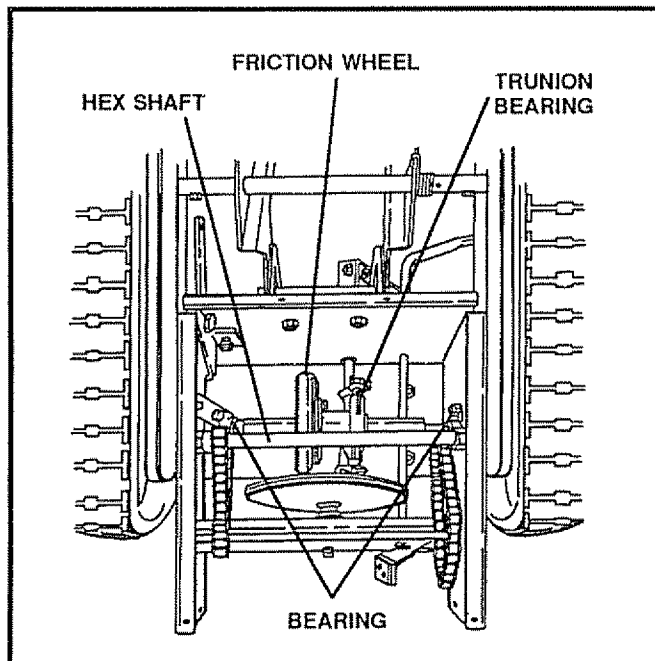

FIG. 32
- Remove the self-tap screws from the bearing at the left end of the hex shaft (See Fig. 32 and 33).